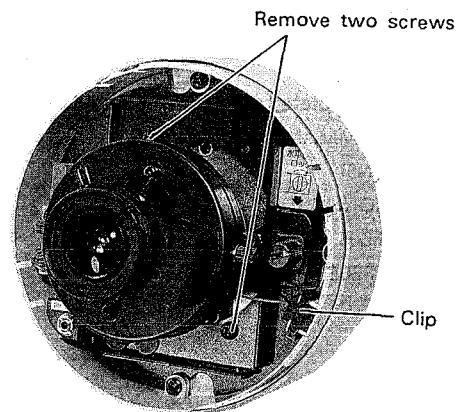

Fig. 2-2
- Remove two screws on the bracket holding camera head. (Fig. 2-2)
- Pull the clip holding microphone unit and pick out microphone from the cover. (Fig. 2-2)